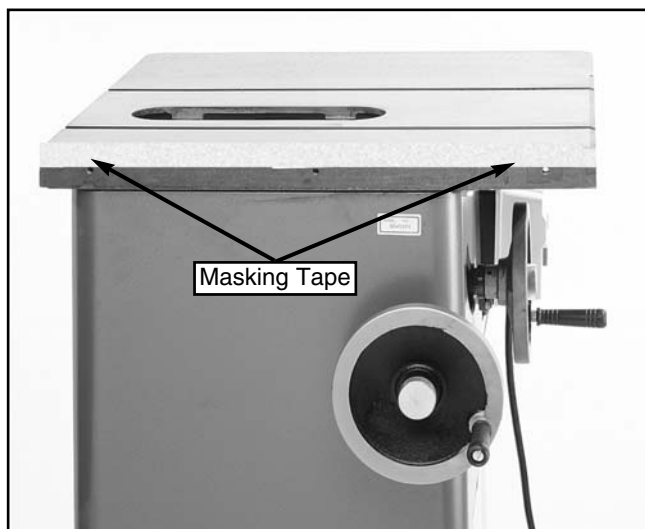

Figure 7. Using tape to shim for wing alignment.
9. If the extension wings tilt up or down at the outside edges, remove the wings and shim them with masking tape as shown in **Figure 7**.